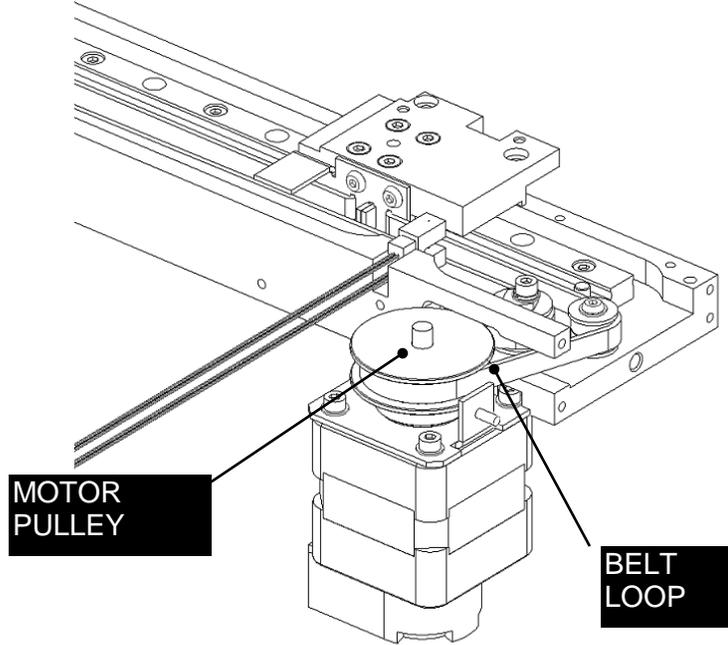

Figure 8-21: Attaching Motor Pulley, Part 1
5. Hook the Y Motor Pulley into the belt loop and locate the Y Motor Plate in to the recess. Attach to the Y Arm using four M3x6 Flat Head Screws and Loctite 222 (Figure 8-21 and 8-22).